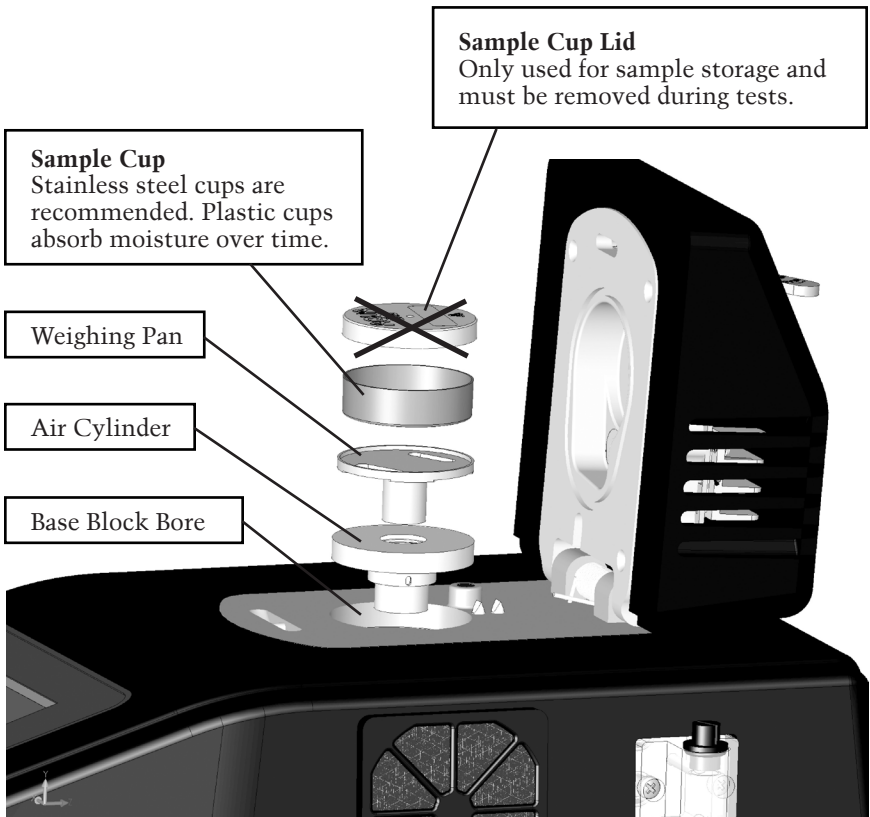

Figure 4: Sample cup and lower block assembly
- Figure 4: Sample cup and lower block assembly illustrates the proper positioning of the parts in the lower block. The air cylinder is placed into the bore of the base block. It should slide into the block easily and settle at the bottom of the bore. The weigh pan connects to the scale and holds the sample cup. For best results, verify cleanliness of all parts.